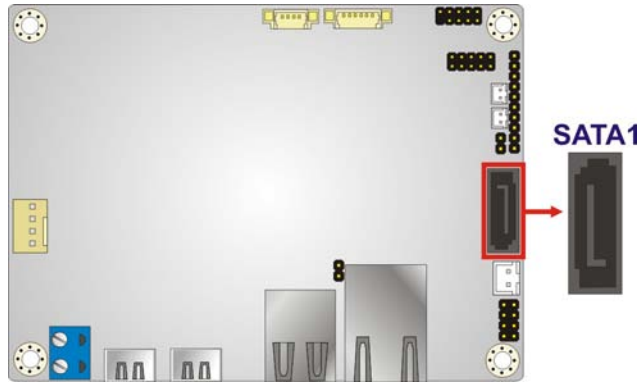

Figure 3-17: SATA 6Gb/s Drive Connector Location
- CN Location: See **Figure 3-17**